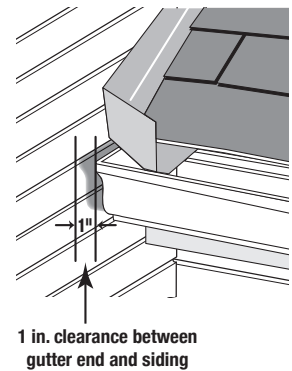

Figure 8
- Kick out flashing is required in areas where the roof and gutters are adjacent to the siding. Provide a 1 in. clearance between the gutter end and the siding (see Fig. 8).